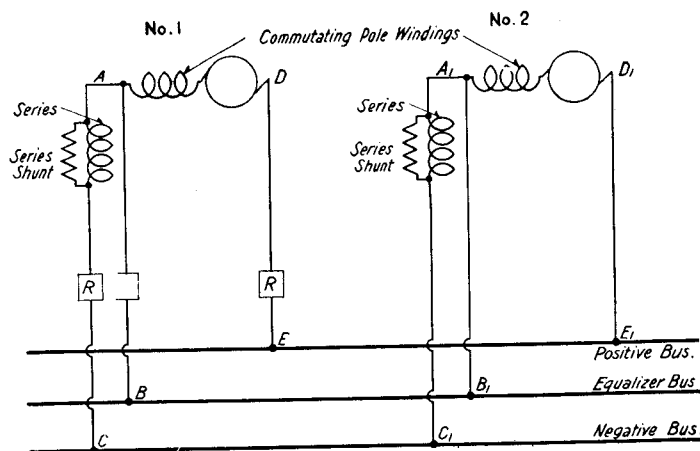

FIG. 6—FOR ALTERING LENGTH OR SIZE OF GENERATOR CONNECTING LEADS
The measured resistance can be readily calculated by using the following formula and the method of connecting the apparatus shown in the diagram Fig. 6.
**Equalizer**—An equalizer, or equalizer connection, connects two or more generators operating in parallel at a point where the armature and series field leads join, thus placing the armatures in multiple and the series windings in multiple, in order that the load may be divided between the generators in proportion to their capacities. The arrangement of connections is shown in the diagram, (Fig. 6).
The diagram in Fig. 6 will indicate how this is to be done.